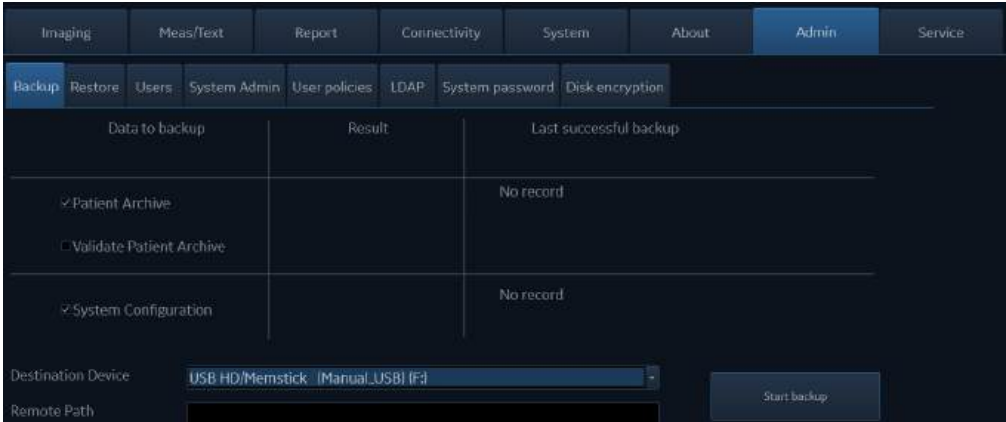

Figure 4-6. Backup Sheet
2. Access to the Config/Admin Menu, and select Restore. The Restore sheet will be shown on the LCD display. See Figure 4-6 on page 4-22.